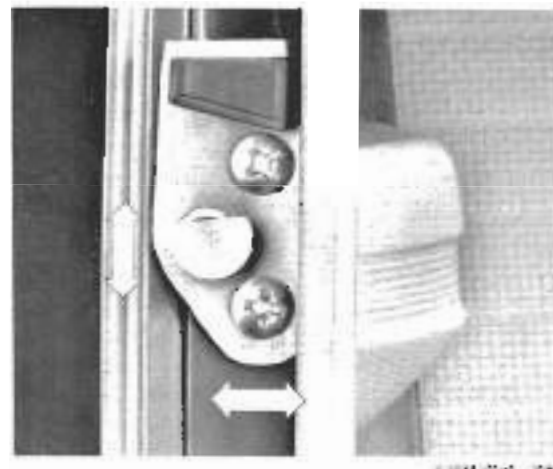

Fig. 5-40
5. To check for excessive latch play, press the door firmly near the hinge link. If there is any detectable play, adjust the striker plate (Fig. 5-40).
**Fig. 5-40.** Striker plate adjustment. Loosen the Phillips head screws. Then re-tighten the striker plate as indicated by the double arrow until all play is removed from the door.